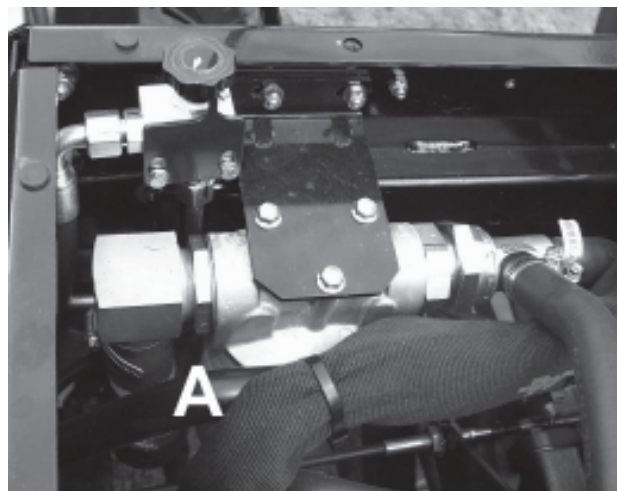

Fig.6
Change Hydraulic Oil Filter (A)(Fig.6))